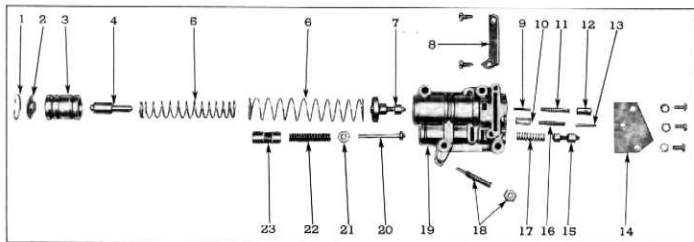

Fig. 189—Layout of Low and Drive Valve Body
- Figure 189 shows layout of low and drive valve body parts.